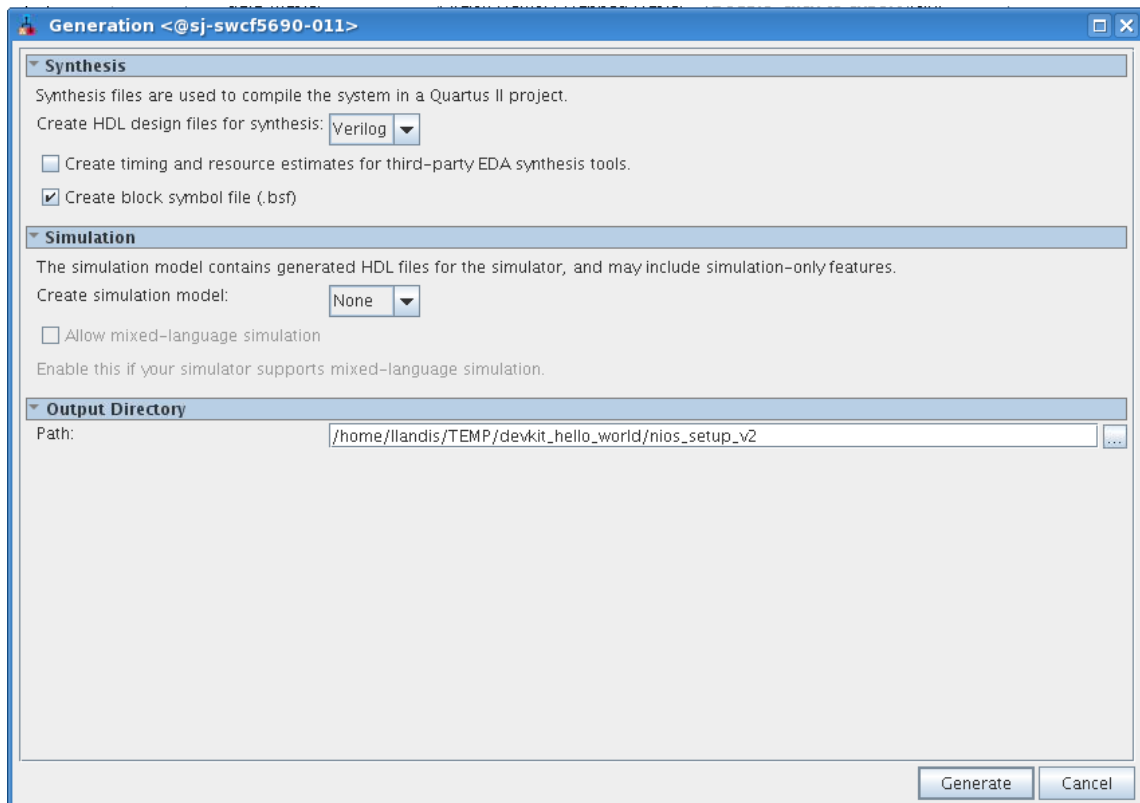

Figure 10: HDL Generation Panel
- Click on the button **Generate HDL**. A screen like Figure 10 should appear.